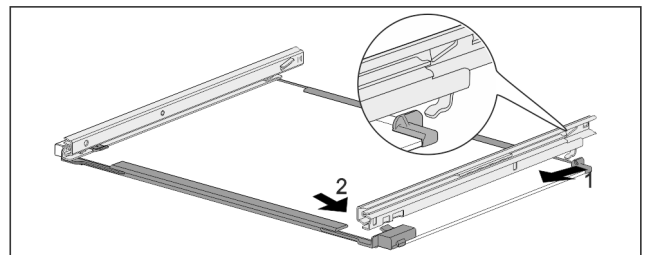

Fig. 82 Glass shelf with rails
- ▶ Hook in rail at the back. Fig. 82 (1)
- ▶ Hook in rail at the front. Fig. 82 (2)